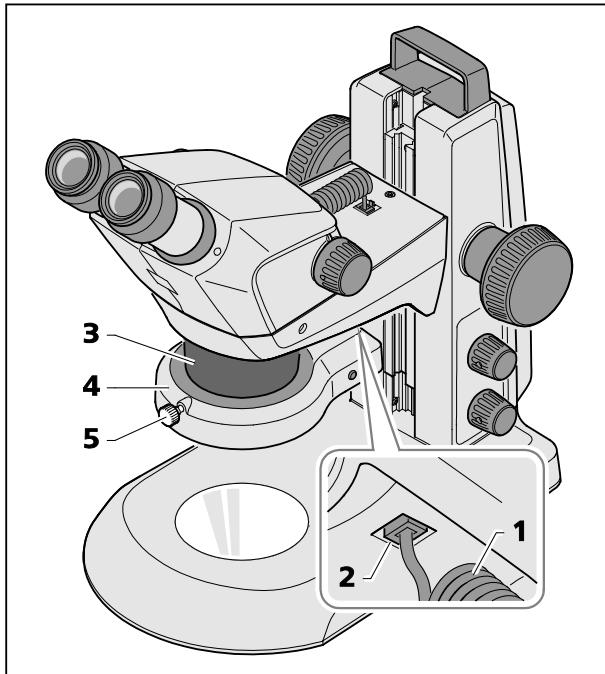
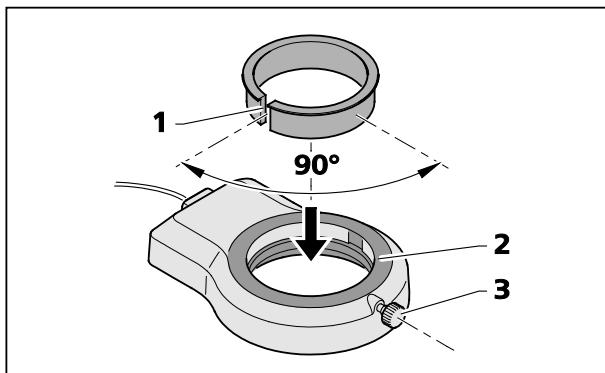

Fig. 13 Mounting ring illuminator on microscope body
Fig. 14 Mounting ring illuminator to front optics 3
- Insert the connection cable (Fig. 13/1) of the ring illuminator (Fig. 13/4) into the lower socket (Fig. 13/2) of the Stemi mount and into the socket of the ring illuminator.
- Push ring illuminator onto the microscope body (Fig. 13/3) from below, and secure using the knurled screw (Fig. 13/5).
- Insert the slotted adapter ring (supplied with front optics) (Fig. 14/1) into the ring illuminator (Fig. 14/2) from above.
- Push the ring illuminator including the adapter up on the front optics and fix it with the clamping screw (Fig. 14/3) (see Fig. 13).
The optimum clamping action is achieved if the slit (Fig. 14/1) of the adapter is placed at approximately 90° relative to the clamping screw (Fig. 14/3) of the ring illuminator.